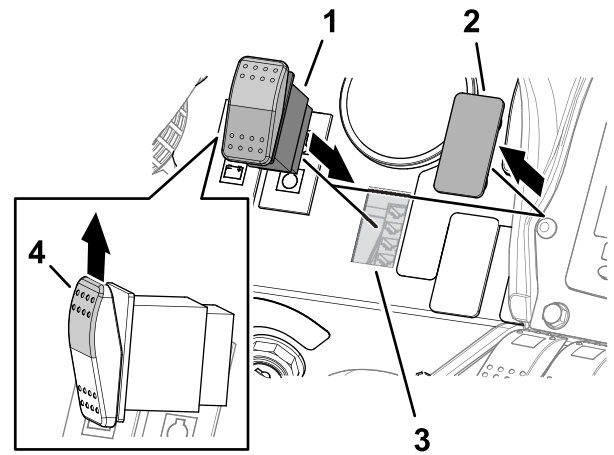

Figure 77
1. Remove the plug in the dash panel as shown in Figure 77.